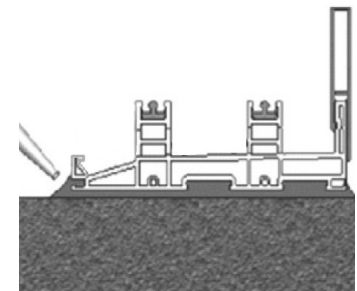

Figure 19
10. Verify the frame is still plumb in opening, then seal outside perimeter of the frame (including P-hook, if applicable) and all screws, including all seams and corners (Figure 19).